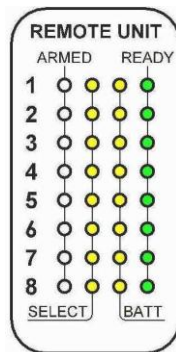

Figure 4-9 Verify the green READY Lights are on steady
4.2.12. At the same time the Motion Detect Screen is displayed, the REMOTE UNIT display will be updated as shown in Figure 4-9. Any READY lights which continue to blink indicate that the Controller did not get a response that Remote Unit. Do not approach those Remote Units which remain blinking until you get a solid green READY light to indicate they are confirmed to be disarmed and safe for approach.